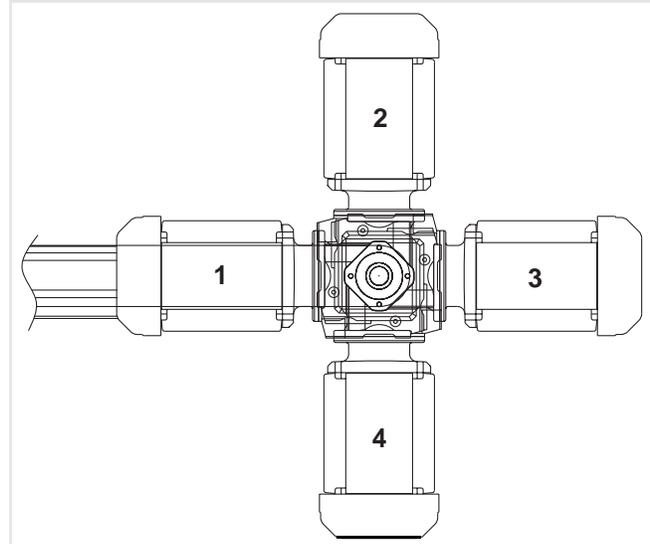

Figure 3
*Gearmotor may be operated in positions 1, 2, 3 or 4 (**Figure 3**).*